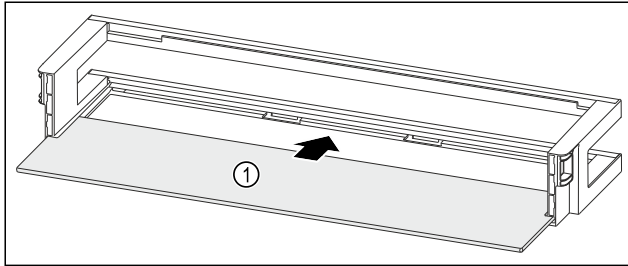

Fig. 85 Door rack with shelf
- Push the shelf Fig. 85 (1) into the side recesses.